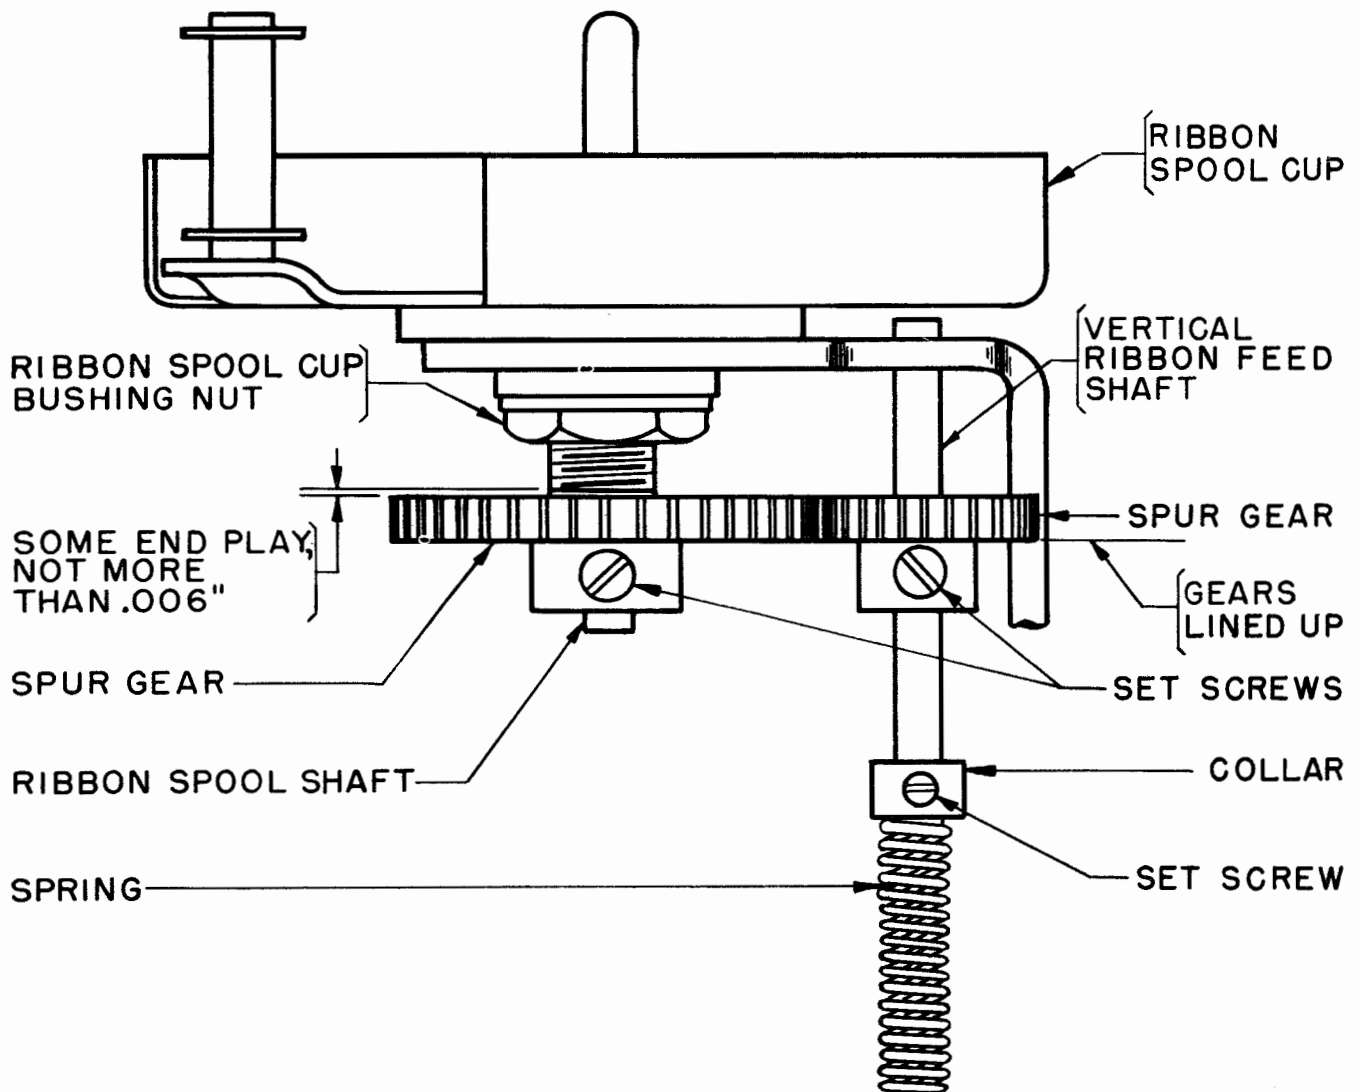

Figure 7
2.11 Ribbon-spool Shafts: The ribbon-spool shafts should have endplay, not to exceed 0.006 inch. Gauge by eye and feel. See Figure 7.
2.12 Vertical Ribbon-feed-shaft Spur Gears: The vertical ribbon-feed-shaft spur gears should line up with the ribbon-spool-shaft spur gears. Gauge by eye. See Figure 7.
To Adjust: Reposition the ribbon-spool cups taking up the play between the cup bushings and the brackets to make the play between the gears a maximum. See Figure 7.
To Adjust: Reposition the adjusting collar on the vertical feed shaft. See Figure 7.
To Adjust: Position the ribbon-spool cups and the ribbon-reverse-arm backstops by means of the nuts on the ribbon-spool-cup bushings. When tightening the nuts, take up the play between the ribbon-spool-cup bushings and the ribbon-spool brackets in a direction to make the play between the spur gears a maximum. See Figure 7.